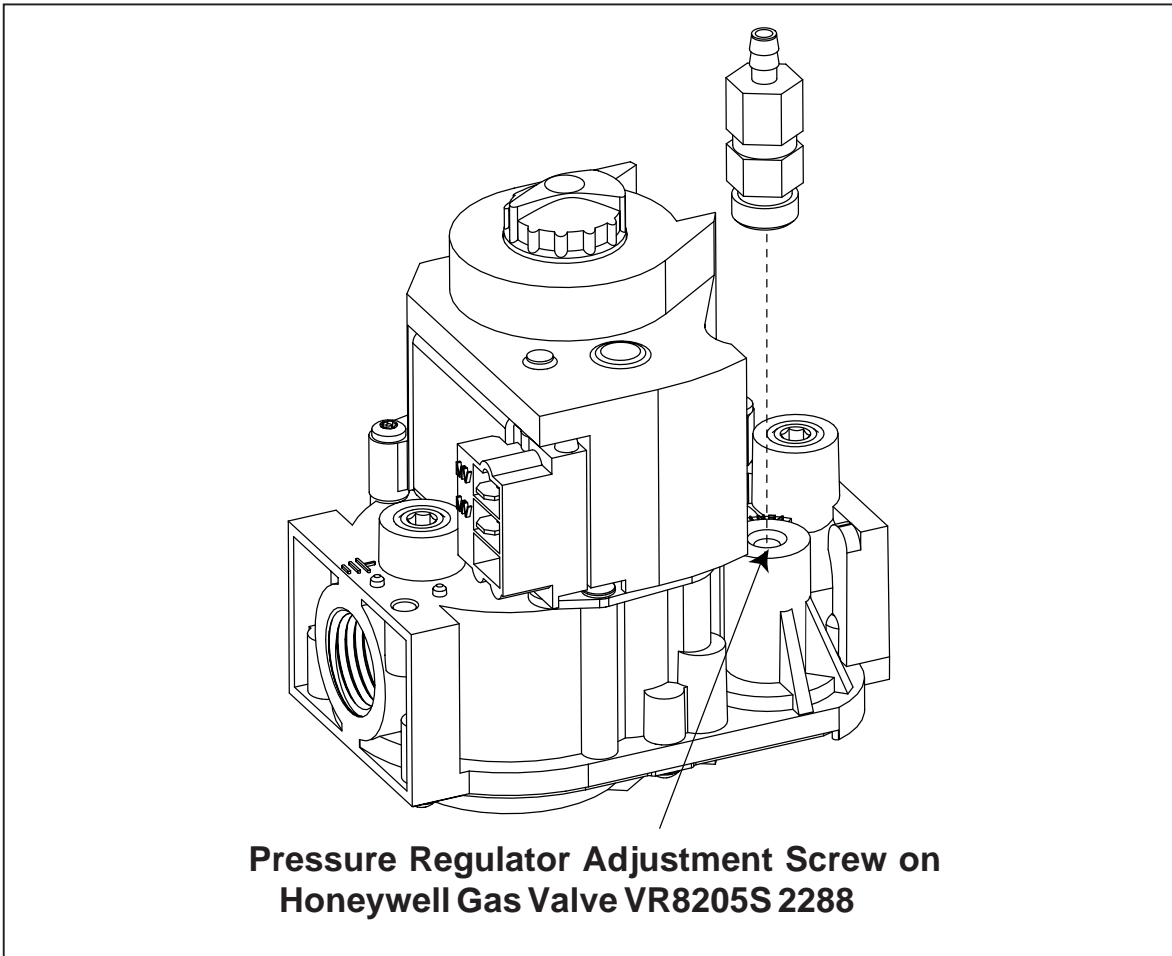

Figure 3
3. Remove the pressure regulator adjustment screw located underneath the cap screw. For condensing furnaces, the Pressure Regulator Adjustment is located underneath the brass fitting (see Figure 3).
1. If the manifold pressure must be adjusted, remove the protective cap or fitting from the top of the gas valve regulator, as shown in Figures 3 and 4.